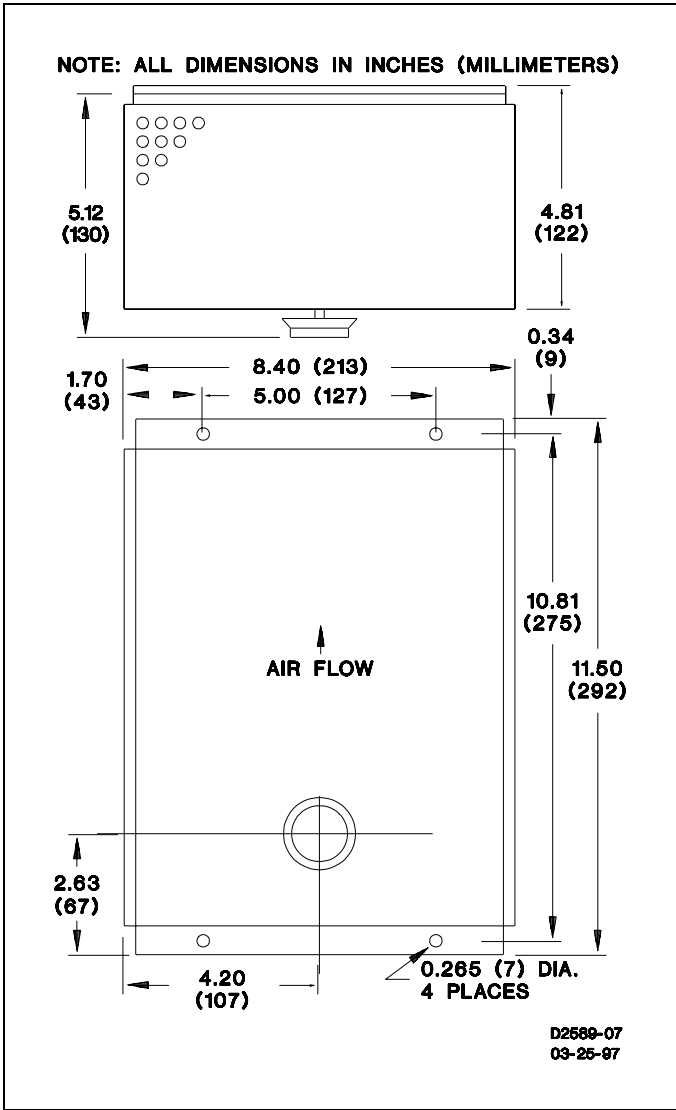
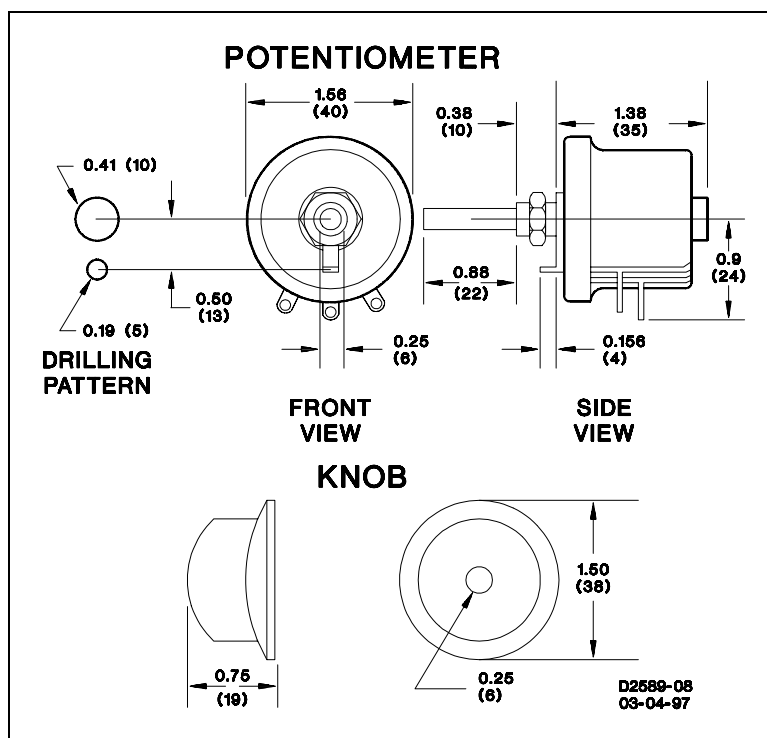

Figure 3-1. Outline Drawing.
Figure 3-2. Voltage Adjust Potentiometer (P/N 03456).
support. See Figure 3-2 for a typical interconnection diagram. This scheme uses the other contact on the buildup relay to connect dc voltage from the exciter armature directly to the exciter field. As an alternative, the regulator could be used as described in paragraph 2-3a. with an excitation support system accessory.
(1) Parallel operation requires additional components in the regulating system. These are resistor R25, transformer T3 and a current transformer CT1. Two of the components are included in a parallel equipped voltage regulator. These are R25 and T3. Current transformer CT1 is a separate item and must be interconnected as shown in Figures 3-2 or 3-3.
(2) These components allow the paralleled generators to share reactive load and reduce circulating reactive currents between them. This is accomplished in the following manner.
(3) A current transformer CT1 is installed in phase B of each generator. It develops a signal that is proportional in amplitude and phase to the line current. This current signal develops a voltage across resistor R25. A slider on R25 supplies a part of this voltage to the primary of the transformer T3. The secondaries of T3 are connected in series with the leads from the secondary of the sensing transformer T1, and the sensing rectifiers located on the printed circuit board. The ac voltage applied to the sensing rectifier bridge is the vector sum of the stepped down sensing voltage (terminals E1 and E3) and the parallel CT signal supplied through T3 (terminals 1 and 2). The voltage supplied to the sensing rectifiers by the parallel CT is very small in relation to the signal supplied by the sensing voltage. The regulator input sensing voltage (terminals E1 and E3) and the parallel compensation signal (terminals 1 and 2) must be connected to the generator system so as to provide the correct phase and polarity relationship.
(4) Regulators with single-phase sensing provide about 8% maximum droop while three-phase sensing regulators provide 6% droop. When generators are paralleled on the same bus and have different type sensing, care must be taken to compensate for these differences using the slide wire adjustment on the droop resistor R25.
(5) When a resistive load (unity P.F) load is applied to the generator, the voltage that appears across R25 (and T3 windings), leads the sensing voltage by 90°, and the vector sum of the two voltages is nearly the same as the original sensing voltage; consequently, almost no change occurs in generator output voltage.
(6) When a lagging power (inductive) load is applied to the generator, the voltage across R25 becomes more in phase with the sensing voltage and the combined vectors of the two voltages results in a larger voltage being applied to the sensing rectifiers. Since the action of the regulator is to maintain a constant voltage at the sensing rectifiers, the regulator reacts by decreasing the generator output voltage.
(7) When a leading power factor (capacitive) load is applied to the generator, the voltage across R25 becomes out of the phase with the sensing voltage and the combined vectors of the two voltages results in a smaller voltage being applied to the sensing rectifiers, then the regulator reacts by increasing the generator voltage.
(8) When two generators are operating in parallel, if the field excitation on one generator should become excessive and cause a circulating current to flow between generators, this current will appear as a lagging power factor (inductive) load to the generator with excessive field current and a leading power factor (capacitive) load to the other. The parallel Compensation circuit will cause the voltage regulator to decrease the field excitation on the generator with the lagging power factor load, and increase the field excitation on the generator with the leading power factor load, so as to minimize the circulating currents between the generators.
The voltage regulator will operate when mounted in any position, however, it should be vertically mounted to obtain optimum cooling when operating near its full rated output. The regulator can be mounted in any location where the ambient temperature does not exceed its ambient operational limits. Due to its rugged construction, the regulator can be mounted directly on the generator. The overall and mounting dimensions are shown in Figure 3-1. The mounting dimensions of the associated potentiometers are shown in Figures 3-2 and 3-3.